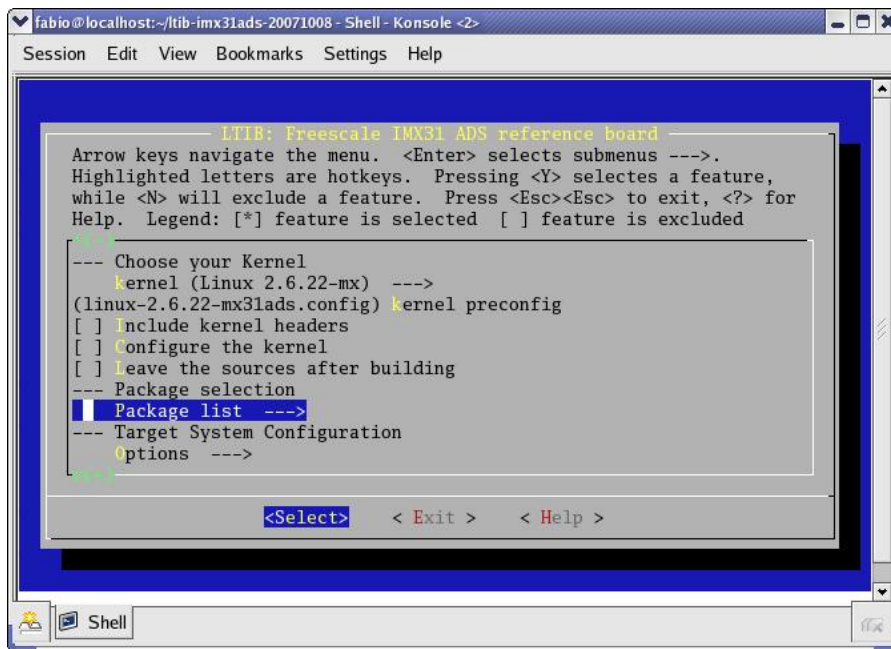

Figure 2 Package List Option
2. Scroll down to *Package list* (Figure 2).
These libraries will be located at `.../ltib-imx31ads-20071008/rootfs/usr/lib` if the GX200-BU98000 package was selected as shown in Figure 2.